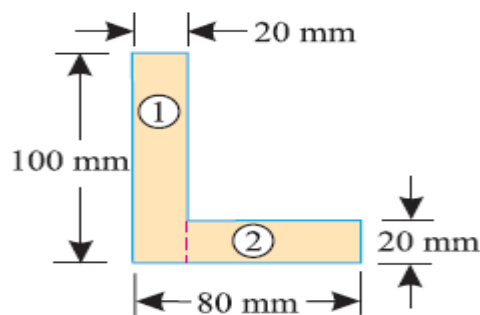

Fig.26
9. Find the moment of inertia about the centroidal X-X and Y-Y axes of the angle section shown in Fig.26 [10 M]